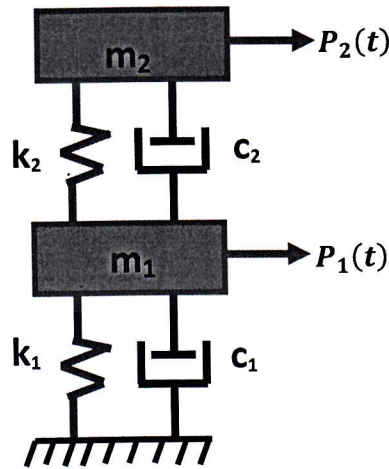

Figure 3
- [3] Derive the equations of motion of the system depicted in Figure 3. Solve the Eigenvalue Problem and determine the **Eigenfrequencies and Mode Shapes** of the aforementioned system by considering  $m_1 = 2m, m_2 = m, k_1 = k_2 = k$ .